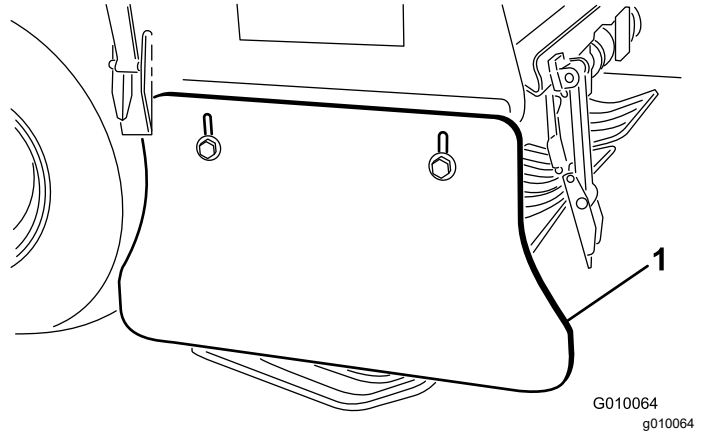

**Figure 172**
2. Loosen the capscrews and flange locknuts that secure the side shield to coring-head frame (Figure 172).